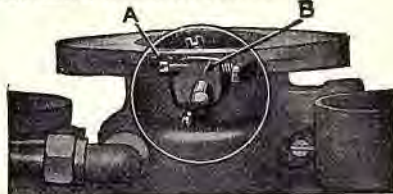

Fig. 12. (A) stop arm screw; (B) stop arm; turn screw (A) to left to throttle engine lower.
Adjusting low speed: With the throttle closed and the dash control down, close the nozzle needle by turning low-speed adjustment to the left until block (U) (Fig. 9), slightly leaves contact with the cam (M). Then turn to the right about three complete turns. Start the engine and allow it to run until warmed up. Then with retarded spark, close the throttle until the engine runs slowly without stopping. Now, with engine thoroughly warm, make final low-speed adjustment by turning low-speed screw to the left until the engine slows down and then turn to the right a notch at a time until the engine idles smoothly. If the engine does not throttle low enough, turn stop arm screw (A) (Fig. 12) to the left until it runs at the lowest number of revolutions desired.